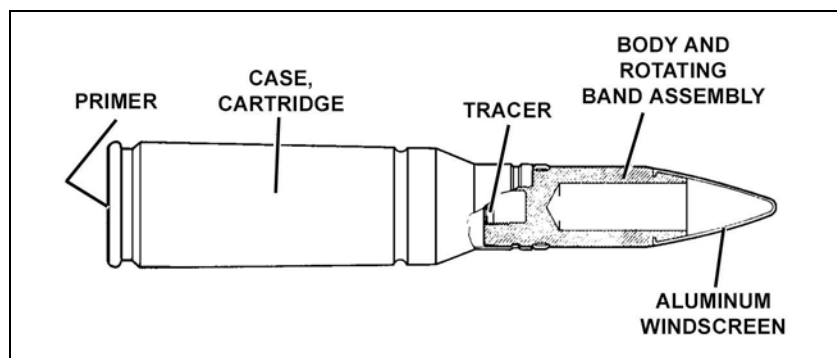

Figure 2-12. M793 TP-T.
c. **M793 Target Practice with Tracer.** The TP-T cartridge (Figure 2-12) is a fixed-type, percussion-primed training round that matches the HEI-T round ballistically. The projectile consists of a hollow steel body with blue with white markings. The TP-T's maximum effective range is 1,600 meters, and the tracer is visible out to 2,000 meters. However, accuracy is greatly reduced beyond 1,600 meters.